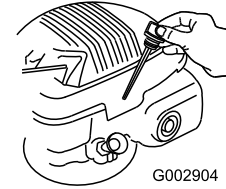

Figure 39
3. Remove the dipstick (Figure 39).